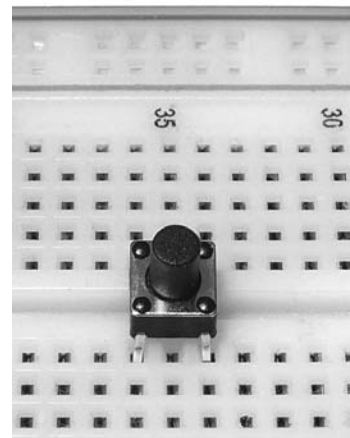

Figure 4-20: Push button inserted into breadboard
1. Insert the push button into the breadboard, as shown in Figure 4-20.